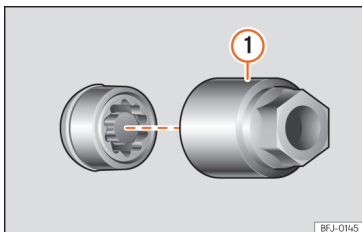

Fig. 194 Anti-theft wheel bolt with cap and adapter.
- Insert the special adapter **>>> Fig. 194 ①** (vehicle tools **>>> page 251**) onto the anti-theft wheel bolt and push it on as far as it will go.